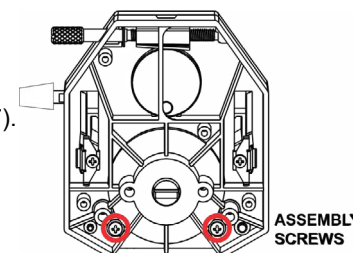

Figure 7 Replacing Rotor
3. Remove two screws (see Figure 7).